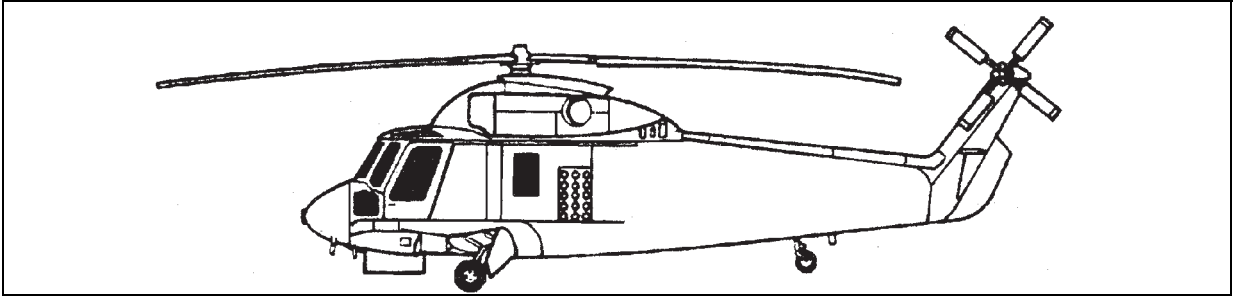
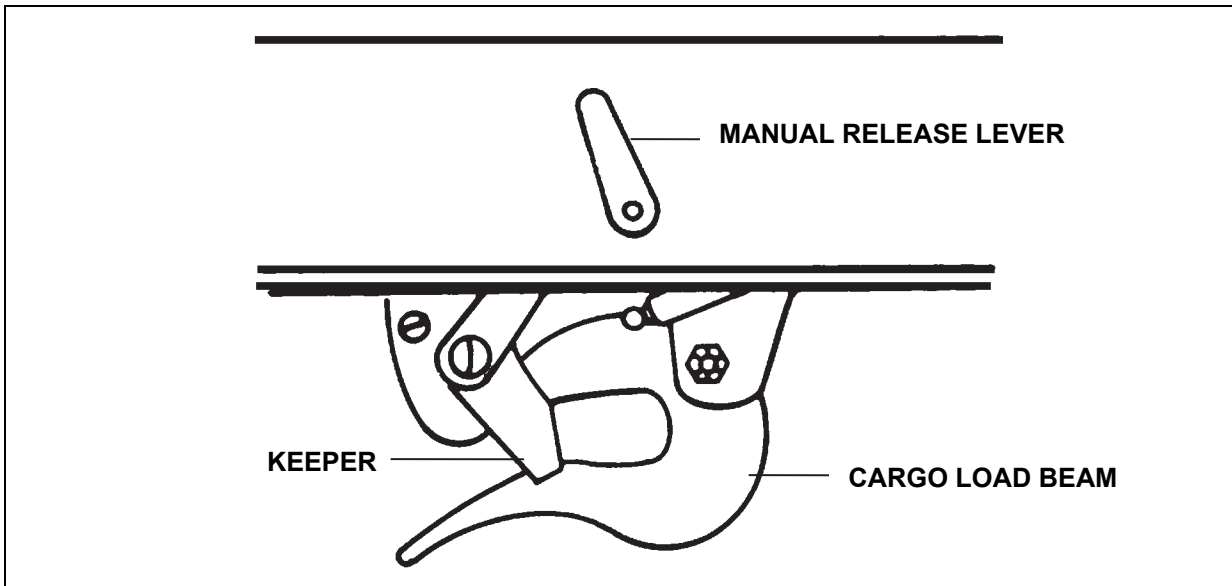

Figure 2-4. SH-2F Sea Sprite
Figure 2-5. SH-2F Cargo Hook
- **SH-2F.** The SH-2F Sea Sprite is a twin engine, single main rotor helicopter (figure 2-4) manufactured by Kaman Aerospace Corporation. The cargo hook maximum capacity is 4,000 pounds and is mounted under the fuselage aft of the main landing gear (figure 2-5). The cargo hook has a small throat opening between the load beam and keeper. Some sling equipment is too large to fit on the cargo hook. Coordinate with SH-2 unit to make sure your sling equipment will fit on the cargo hook. The cargo hook is normally opened electrically or manually by the aircrew. A manual release lever is located on the left side of the cargo hook. In an emergency, the ground crew can move the lever aft to open the cargo hook.